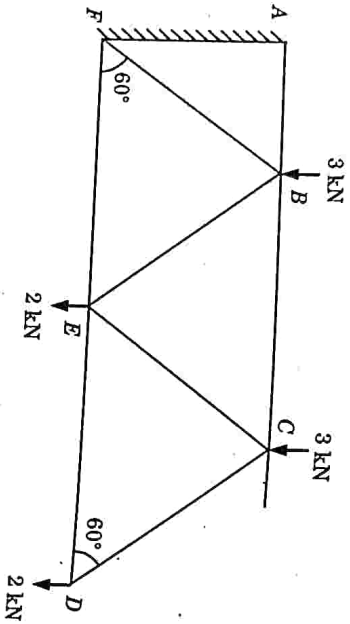

Fig. 22.
b. The Fig. 22 shows a warren type cantilever truss along with the imposed loads. Determine the forces in all the members using tension coefficients.
**Given :** Truss shown in Fig. 22.